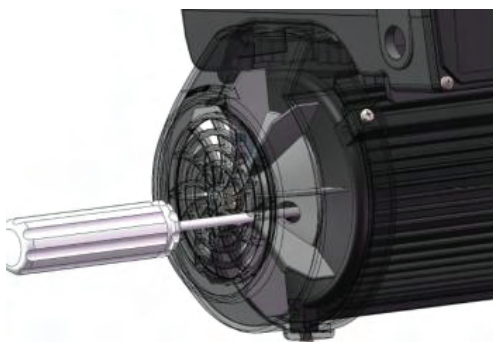

Figure 4
4. To unscrew the impeller from the shaft, insert a Phillips screwdriver into the hole of the motor fan and twist the impeller counter-clockwise. See **Figure 4**.